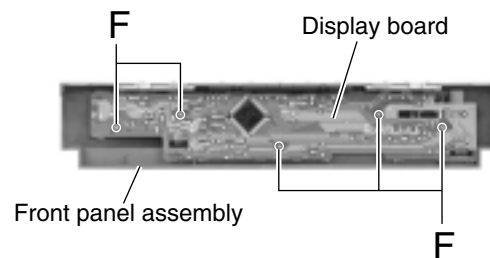

Fig.9
■ Removing the display board (See Fig.9)
1. Remove the five screws (F) that retain the display board.